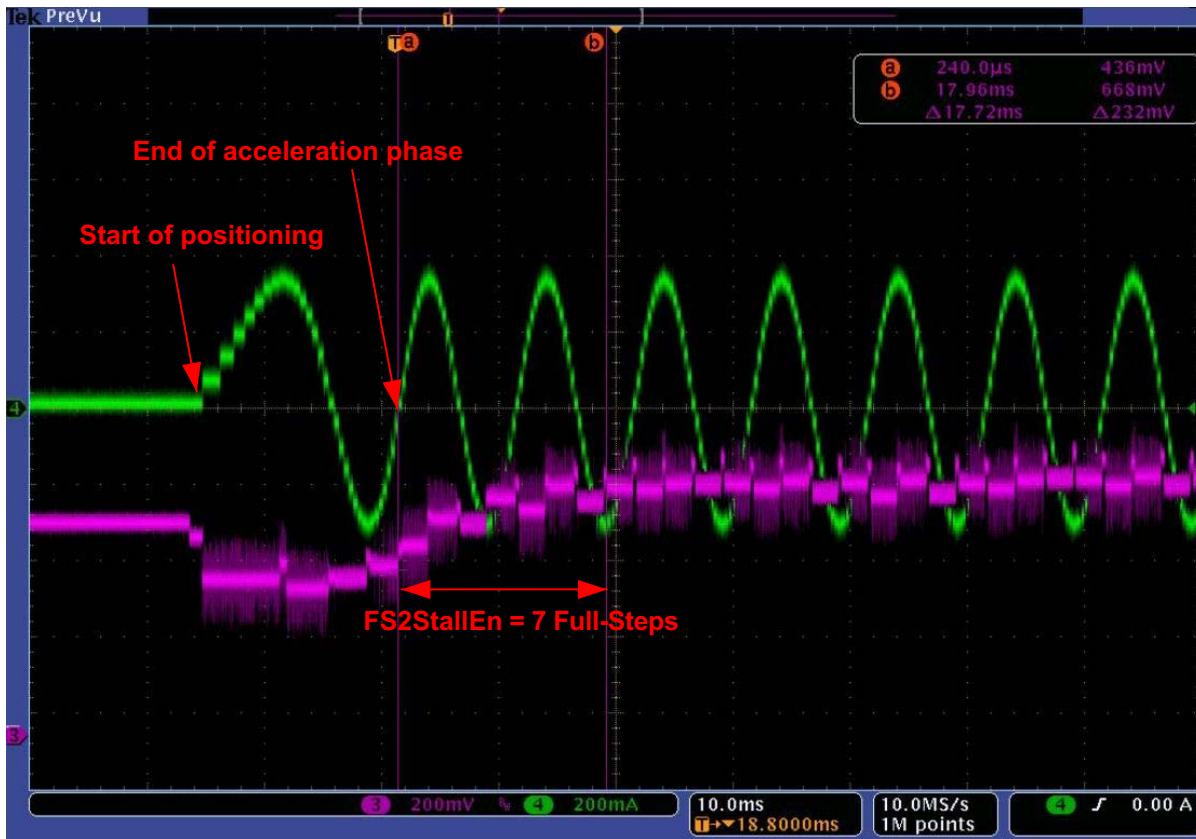

Figure 32. Observation of BEMF on SWI-Pin
- Step 5: Do a SetPosition and observe the BEMF on the SWI-pin during the acceleration phase and the beginning of the maximum velocity phase. Figure 32 displays an oscilloscope plot of the